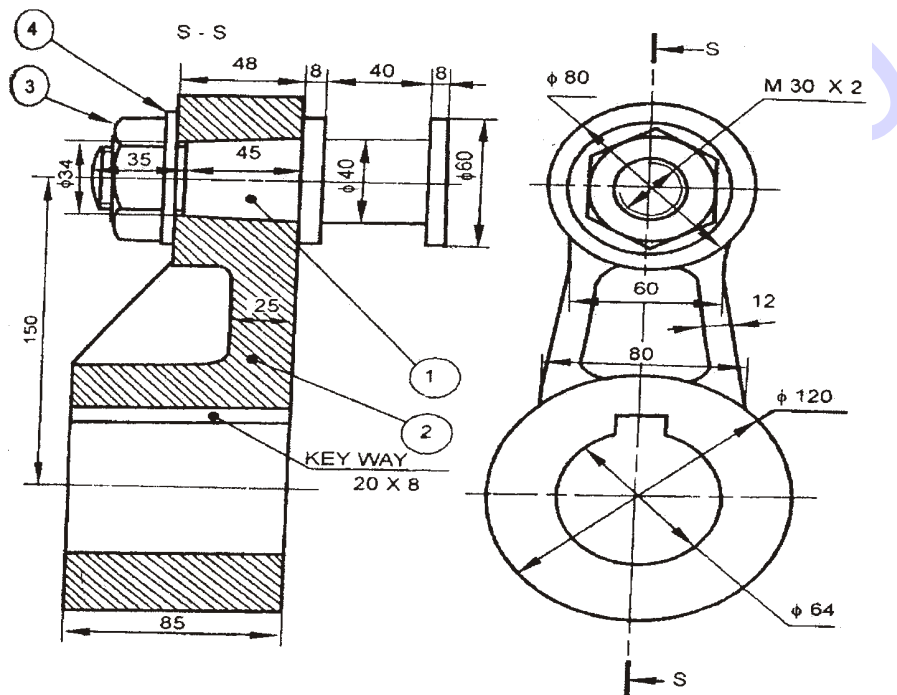

Fig. 1
- Instructions :** (1) Answer *any one* question.
(2) Each question carries **forty** marks.
5. Study the given assembly drawing of the crank shown in Fig. 1 :